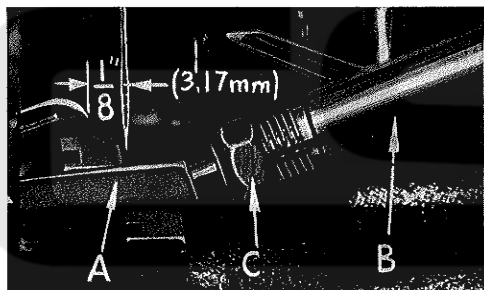

Fig. 5
At this point on all Styles except 39500 TG, insert lower looper (A, Fig. 5) into bar (B). On Style 39500 TG insert lower spreader into bar (B). With lower looper at left end of its stroke, set looper point $1/8$ inch (3.17 mm) from center of needle (Fig. 5), using looper gauge No. 21225- $1/8$ for Styles 39500 QJ, QL, QN, QV, RP, RU, SJ and SR. Set lower looper point for Styles 39500 QX, SX and TY; and lower spreader point for Style 39500 TG $3/32$ inch (2.38 mm) from center of needle, using looper gauge No. 21225- $3/32$. Do not have lower looper or lower spreader deflecting needle. Tighten nut (C).